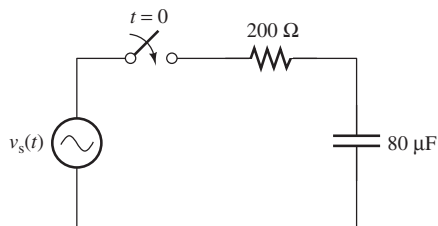

FIGURE P5.50 Circuit for Problem 5.50.
- 5.50 (B) The switch closes at $t = 0$. Given the voltage source $v_S(t) = 5 \sin(100t)$, find the expression of the current flow for the circuit shown in Figure P5.50.